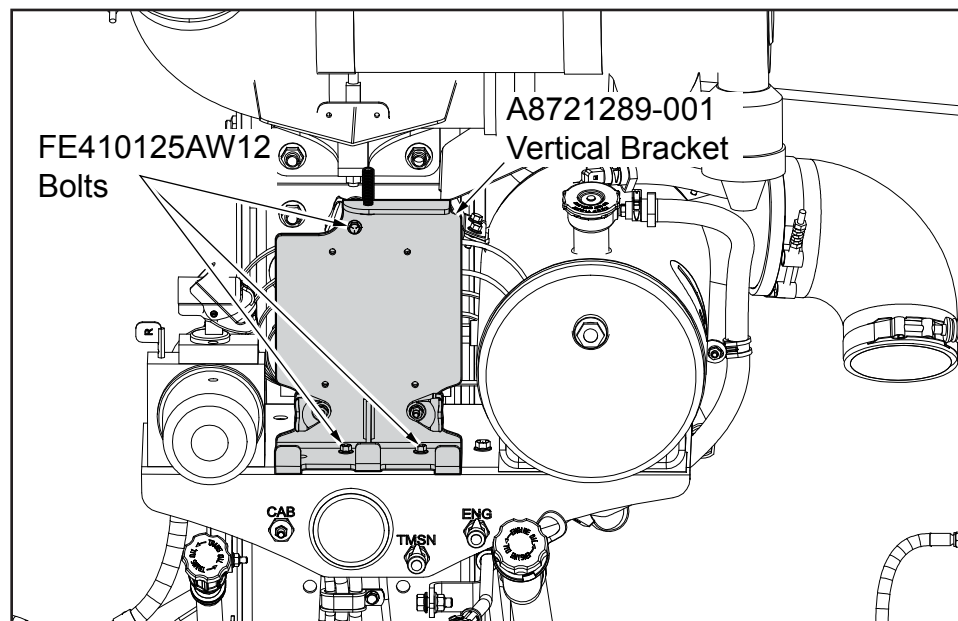

Figure 3
- Using three FE410125AW12 Bolts, install the A8721289-001 Vertical Bracket (see Figure 3).